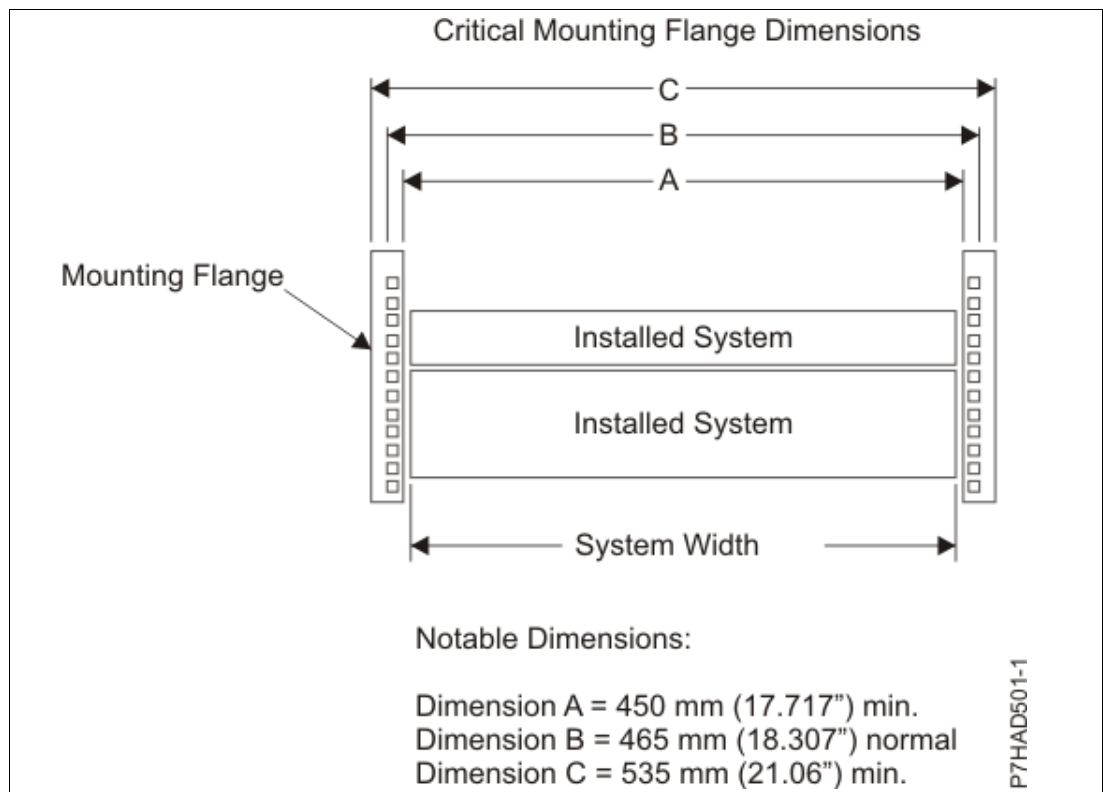

Figure 3-15 Mounting flange dimensions
- The rail-mounting holes must be  $465 \text{ mm} \pm 0.8 \text{ mm}$  ( $18.3 \text{ in.} \pm 0.03 \text{ in.}$ ) apart on-center (horizontal width between the vertical columns of holes on the two front-mounting flanges and on the two rear-mounting flanges), as shown in Figure 3-15.